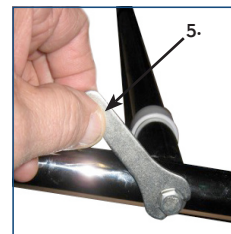

figure 5
5. Tighten the bolt with the wrench provided in the hardware pack. (figure 5)